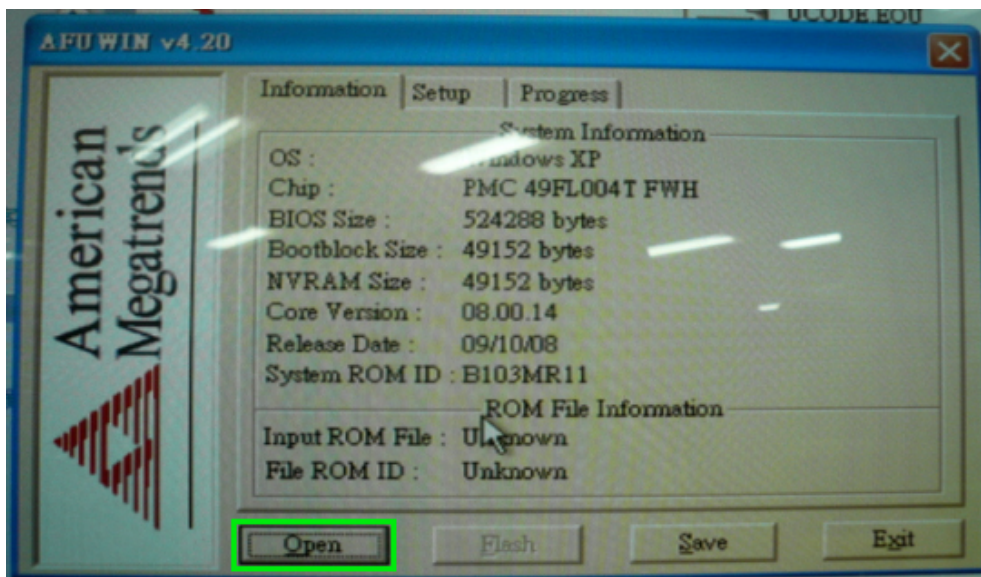

Figure 6-14: AFUWIN – Open BIOS File
**Step 2:** Click Open button to open the BIOS file (Figure 6-14).